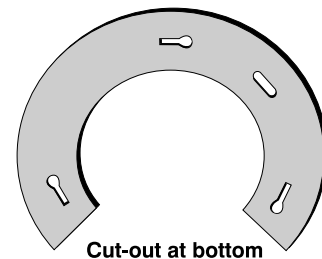

Figure 4.14. Orientation
- See Figure 4.14. Align the large cut-out area on the lens flange to the **bottom** of the lens mount (which has a matching cut-out). The 3 lens assembly slots should align with the lens mount screws so that the screw heads will fit through the large end of the slots.